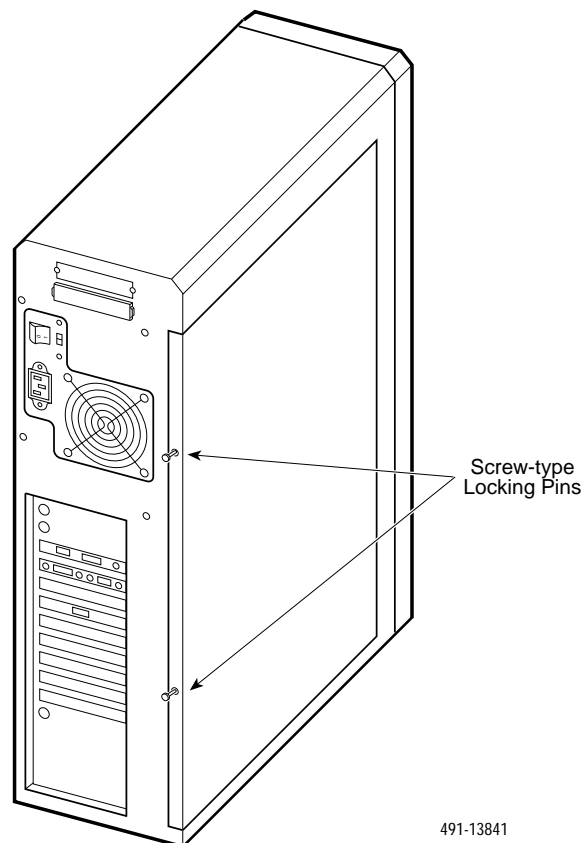

Figure 2-1. System 5000 — Cover Fasteners
1. Using the # 2 Phillips screwdriver, loosen the two screw-type fasteners (locking pins) that secure the cover to the chassis. The fasteners are located on the rear panel near the right side edge, as shown in Figure 2-1.